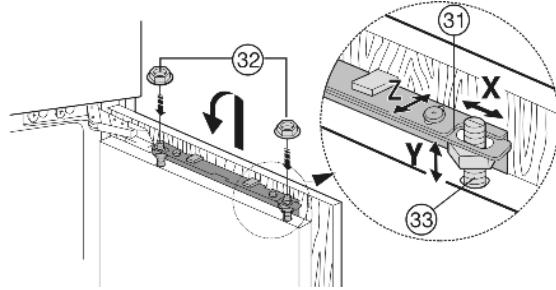

Fig. 23
- ▶ Attach the unit door on the adjusting bolts Fig. 23 (33) and loosely screw the locknuts Fig. 23 (32) onto the adjusting bolts.
- ▶ To align the unit door in height and in lateral inclination: Adjust the adjusting bolts Fig. 23 (33) with a screwdriver.
- ▶ Tighten the locknuts Fig. 23 (32).